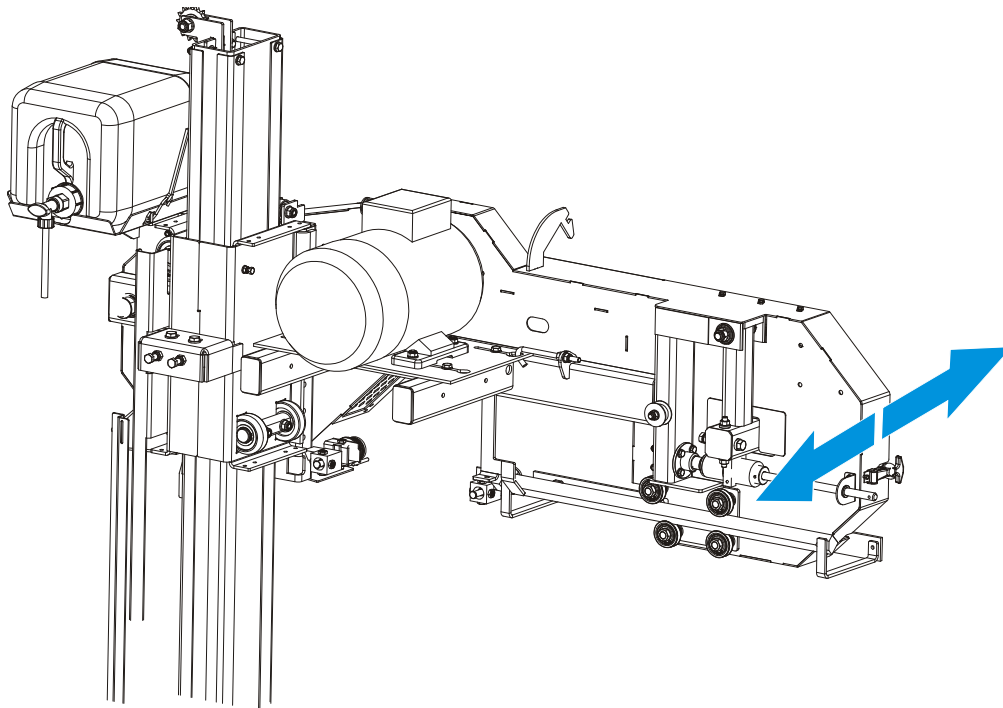

FIG. 5-15
See Figure 5-15. To check if the backlash is present, grasp the outside part of the sawhead and move it as shown in the figure below. To remove the backlash, perform the following steps:
1. Loosen the nuts on the adjustment bolts and the set screws shown in Figure 5-15, adjust the mast guide rollers as shown in Figure 5-15.